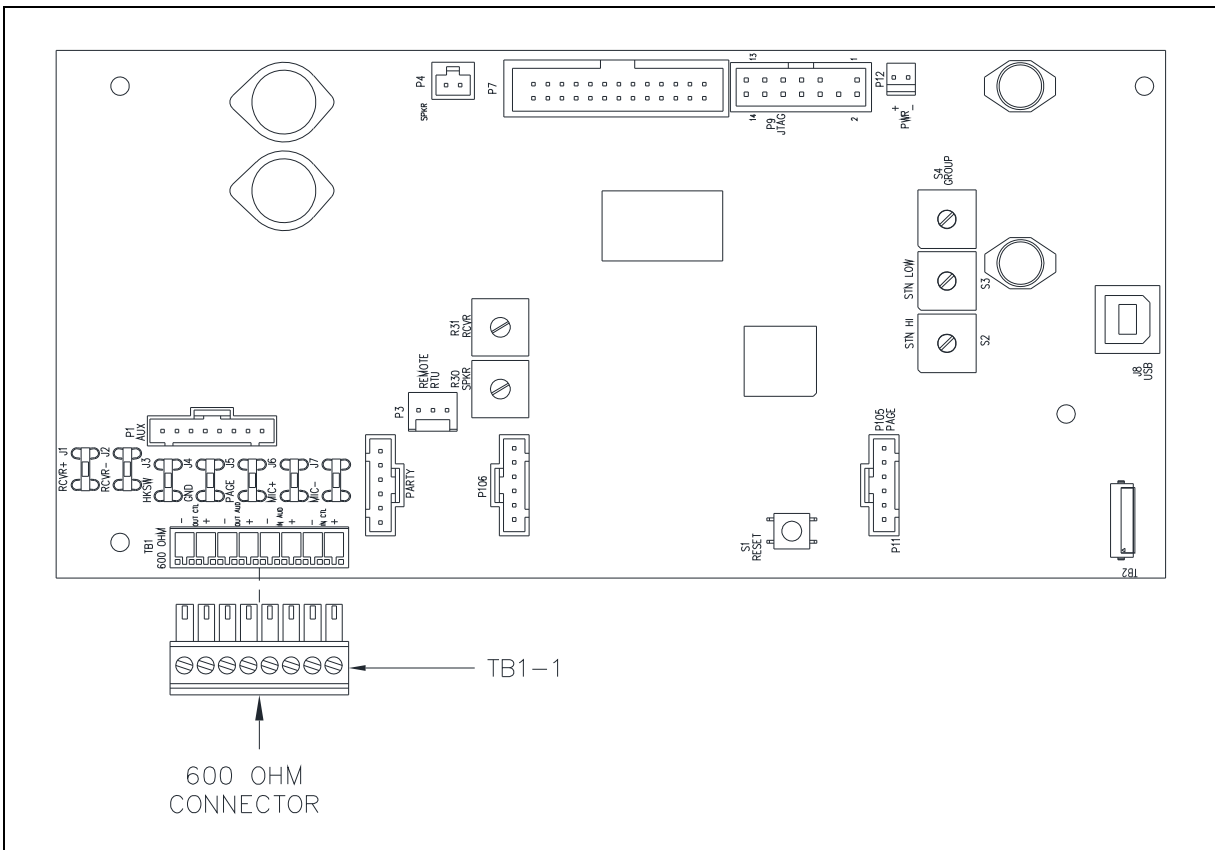

Figure 10. SP2 Main PCBA (Fiber)
3. Connect the 600-ohm audio wires to the pluggable terminal block for the 600-ohm audio I/O connection (see Table 6 and Figure 10).